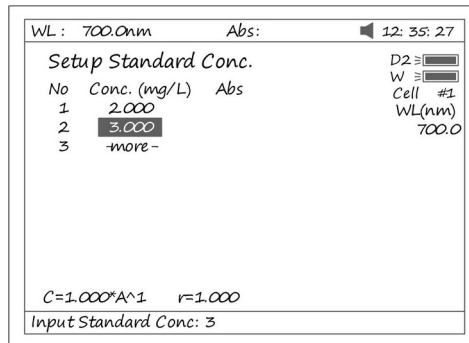
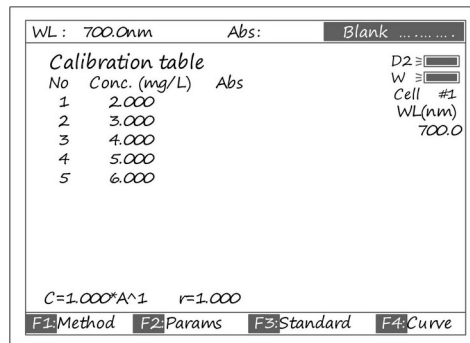

Fig 31
Fig 32
3.4 Enter standard concentrations of samples by pressing the Numeric keypad followed by [ENTER]. Press [Λ] or [v] to modify the inputted data (Fig31). Press [ESC/STOP] to finish inputting and to exit (Fig 32).
Push the blank cuvette into the Light Path, press [0Abs/%100T], the instrument will step to the wavelength and blank. See Fig 32.